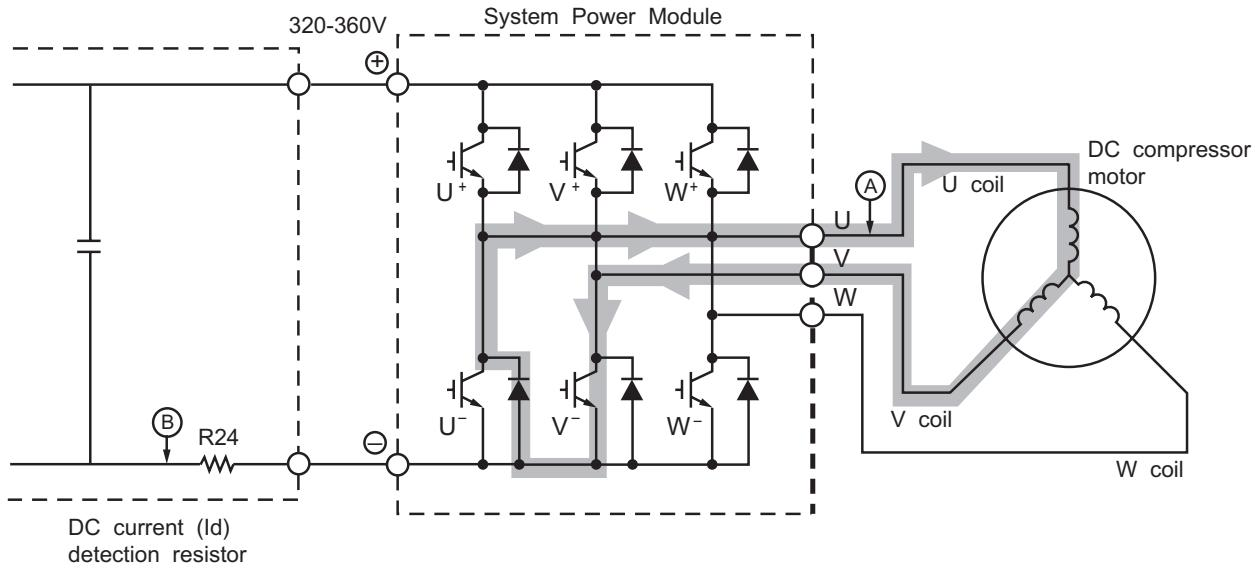

Fig. 3-4 System Power module circuit (U⁺ is OFF, V⁻ is ON)
- When U⁺ transistor is OFF: (by inductance of motor coil) U coil → V coil → V⁻ transistor → Return diode → Point ⑧ (Fig. 3-4)